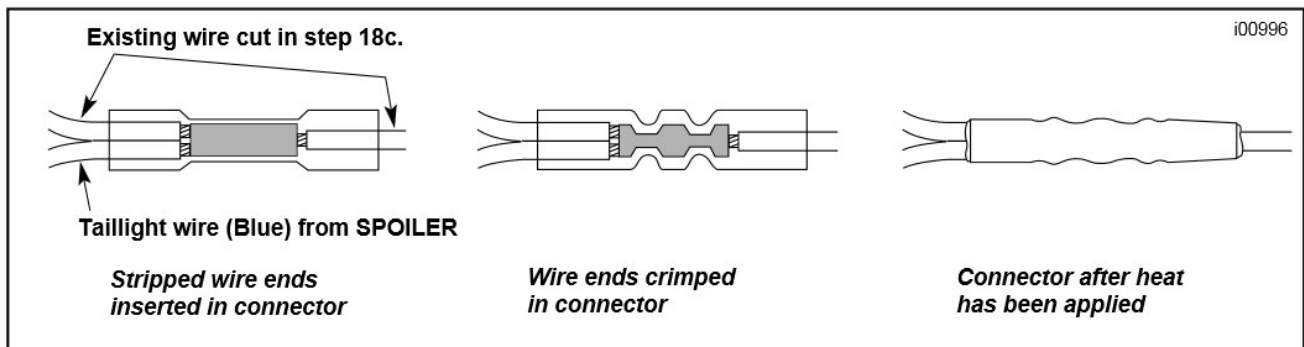

Figure 2. Install Sealed Butt Connectors (taillight splice shown, same procedure for stop lamp splice)
- See Figure 2. For each splice, insert wire ends into splice connector as shown.
- f. See Figure 2. Using the UltraTorch UT-100 (H-D 39969), Robinair Heat Gun (H-D 25070) with Heatshrink Attachment (H-D 41183), or other suitable radiant heating device, heat the crimped splice to encapsulate the butt splice connection. Apply heat from the center of the crimp out to each end until the meltable sealant exudes out of both ends of the connector.